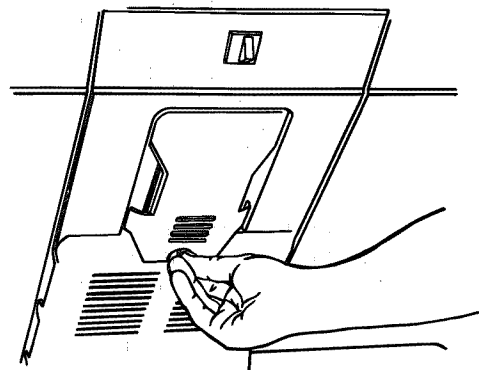

Figure 41
- Snap light cover back in place and return screw back to center back of light cover. See Figure 41.